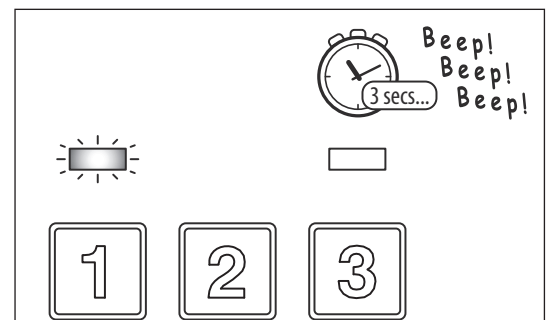

Fig. 102
2. The green data LED will flash once and the codelock will emit a series of 1 second interval beeps for the duration of the programmed relay time, see Fig.102.